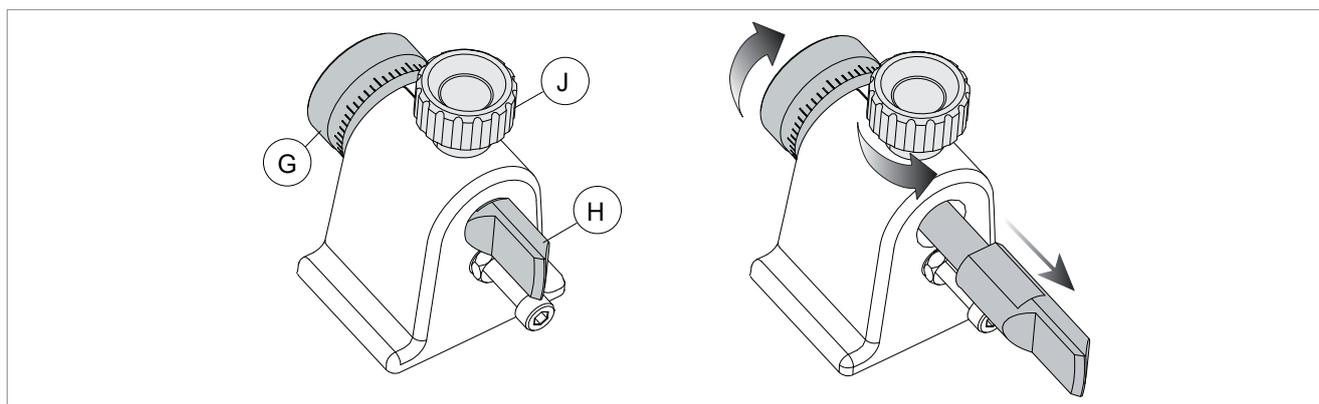

Fig. 36
**⚠ ATTENTION:** turn off the machine with motor switch (T), turn off main power switch (N), close the switch protection cover (N1) and check that it is NOT connected to the battery.
- 1) Loosen the knob (J) (Fig. 36).
- 2) Loosen the ring nut (G) completely and remove the tracer. Attention: the spring may stay in place.
- 3) Fit a new tracer and tighten the ring nut (G).